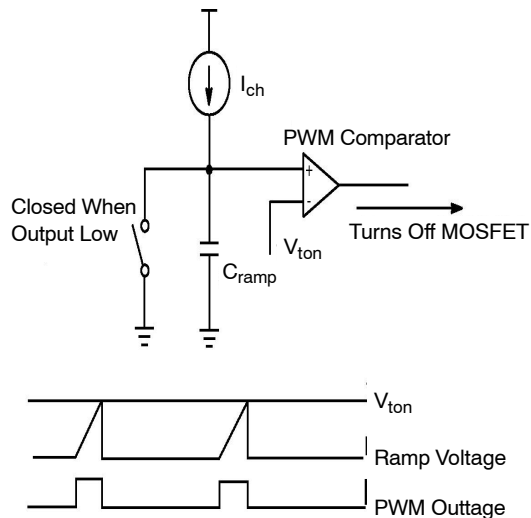

Figure 55. PWM Circuit and Timing Diagram
The NCP1605(A) operates in voltage mode. As portrayed by Figure 55, the MOSFET on time t_1 is controlled by the signal V_{ton} generated by the regulation block and the Pin 4 ramp as follows: